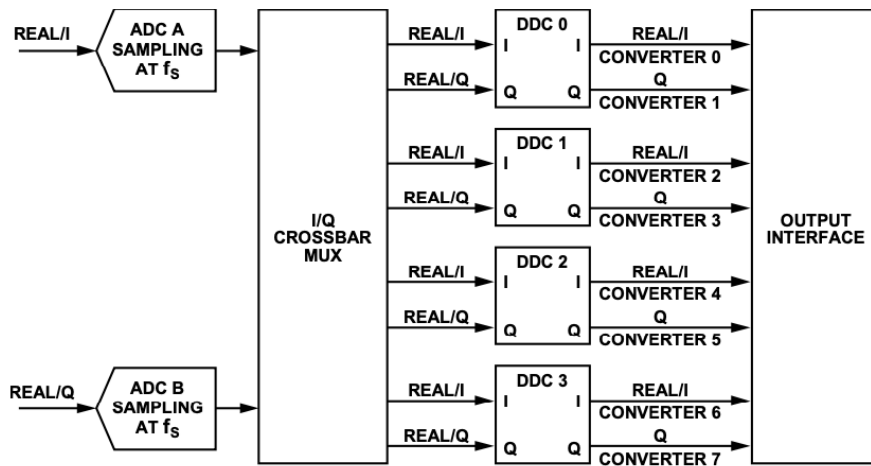

Figure 168. DDCs and Virtual Converter Mapping
The JESD204B Tx block for CLM9680BCPZ supports up to four DDC blocks. Each DDC block outputs either two sample streams (I/Q) for the complex data components (real + imaginary), or one sample stream for real (I) data. The JESD204B interface can be configured to use up to eight virtual converters depending on the DDC configuration. Figure 168 shows the virtual converters and their relationship to the DDC outputs when complex outputs are used. Table 25 shows the virtual converter mapping for each chip operating mode when channel swapping is disabled.
If the internal DDCs are used for on-chip digital processing, M represents the number of virtual converters. The virtual converter mapping setup is shown in Figure 168.